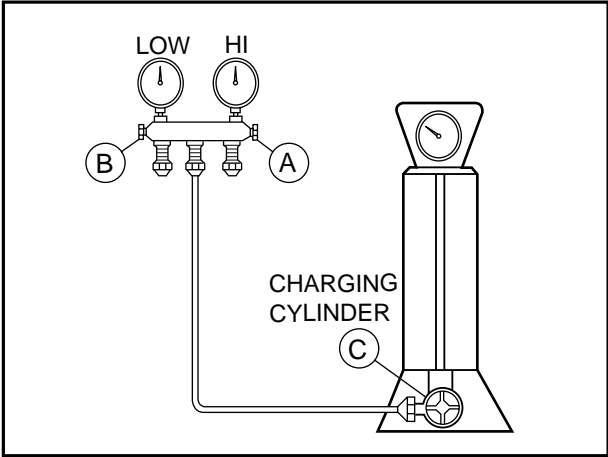

Figure 17B-Charging
- 4) Remove the hose from the vacuum pump and place it on the charging cylinder. See figure 17B.
- 2) Connect the charging cylinder as shown in figure 17B.